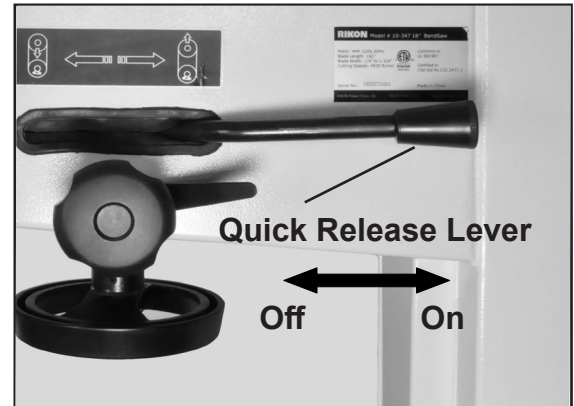
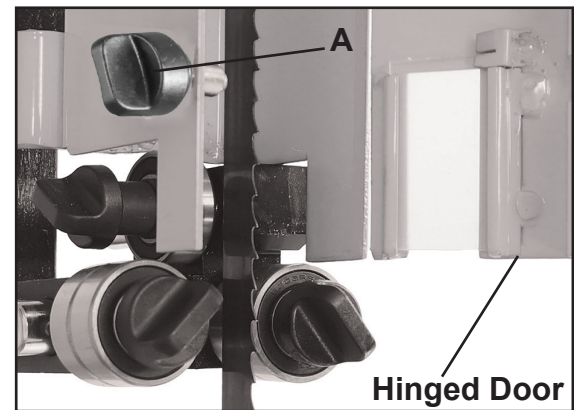

Figure 17
Figure 18
- b) Release the blade tension by moving the quick release lever (Fig.17) from right to left. Open the hinged door on the blade guard by loosening the wing screw (A-Fig.18).
- f) Re-tension the new blade by moving the quick release lever (Fig.17) left to right and check the blade tracking. With your hand, slowly spin the upper wheel clockwise three times. The blade should run in the center of both wheels. Refer to "Tracking the Saw Blade" on pages 12 and 13 for more details.
- h) Close the hinged door on the blade guard and tighten the wing screw (A-Fig.18).